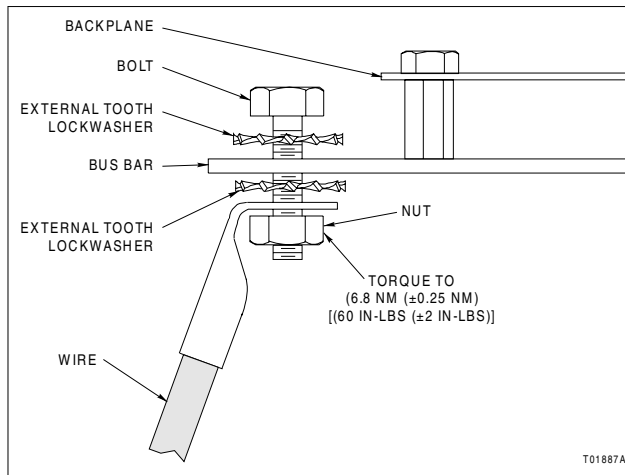

Figure 3-1. System Power Cable Connection
1. Connect one end of the 5 VDC cable to the 5 V connector at the top of the system power bus bar. Use a No.  $\frac{1}{4}$ -28  $\times$  0.5-inch brass cap screw and nut with two external tooth lockwashers provided with the power system. There should be a lockwasher used on each side of the system bus bar (Fig. 3-1).
2. Connect the straight ring lug end of the MCOM cable to the MCOM bus bar. Use a No.  $\frac{1}{4}$ -28  $\times$  0.5-inch brass cap screw and nut with two external tooth lockwashers provided with the power system. There should be a lockwasher used on each side of the system bus bar (Fig. 3-1).
should be a lockwasher used on each side of the system bus bar (Fig. 3-1).
4. Connect one end of the 25.5 VDC cable to the 24 V connector at the top of the system power bus bar. Use a No.  $\frac{1}{4}$ -28  $\times$  0.5-inch brass cap screw and nut with two external tooth lockwashers provided with the power system. There should be a lockwasher used on each side of the system bus bar (Fig. 3-1).
should be a lockwasher used on each side of the backplane bus bar (Fig. 3-1).
2. Connect the free end of the I/O COM cable to the I/O common bus bar on the power module chassis backplane. Use a No.  $\frac{1}{4}$ -28  $\times$  0.5-inch brass cap screw and nut with two external tooth lockwashers provided with the power system. There should be a lockwasher used on each side of the backplane bus bar (Fig. 3-1).
3. Connect the bent ring lug end of the MCOM cable to the module common bus bar on the power module chassis backplane. Use a No.  $\frac{1}{4}$ -28  $\times$  0.5-inch brass cap screw and nut with two external tooth lockwashers provided with the power system. There should be a lockwasher used on each side of the backplane bus bar (Fig. 3-1).
4. Connect the free end of the 5 VDC cable to the 5 VDC bus bar on the power module chassis backplane. Use a No.  $\frac{1}{4}$ -28  $\times$  0.5-inch brass cap screw and nut with two external tooth lockwashers provided with the power system. There should be a lockwasher used on each side of the backplane bus bar (Fig. 3-1).